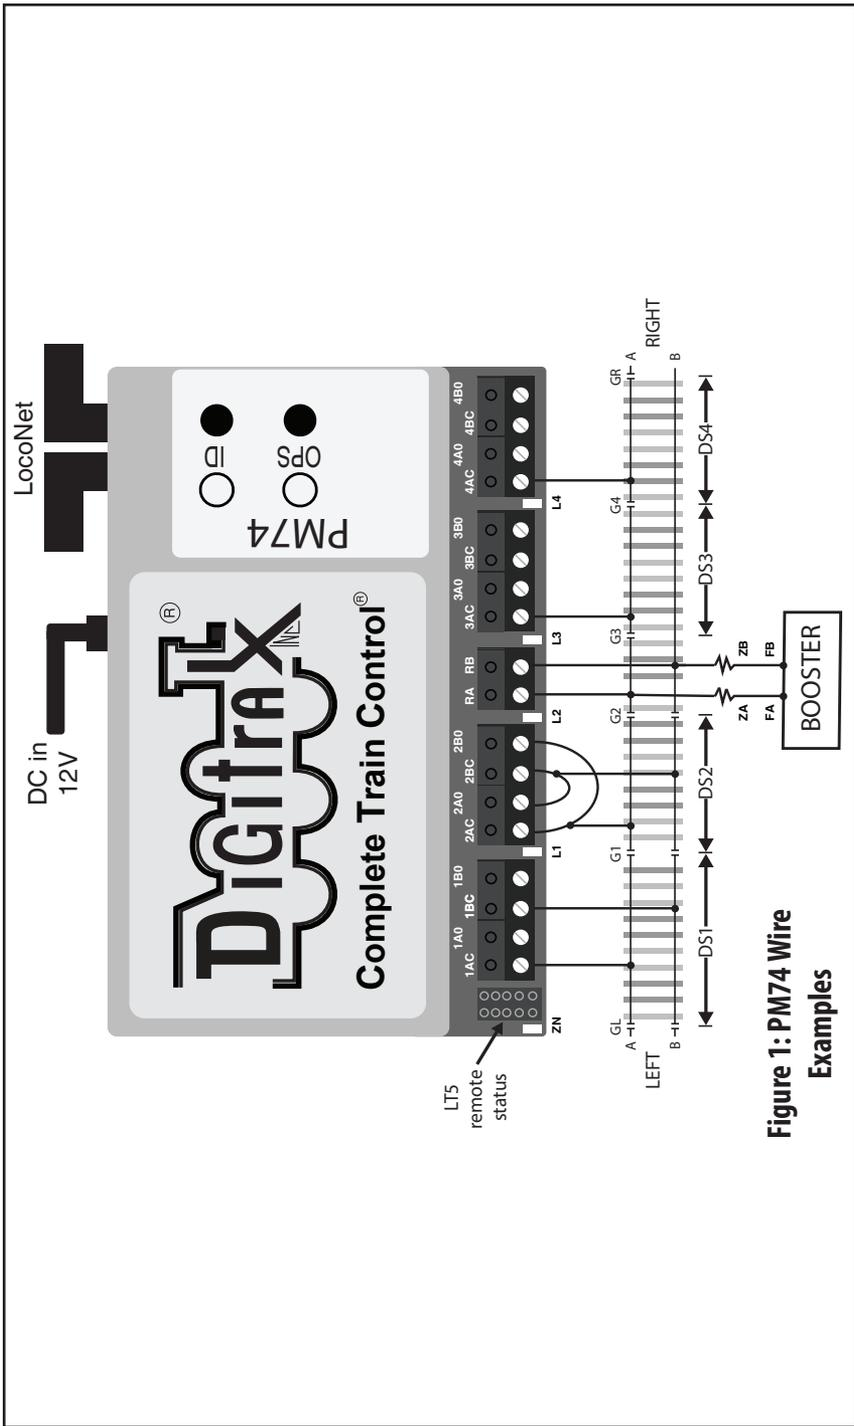

Figure 1: PM74 Wire Examples
1. Figure 1 shows the recommended connections to operate the PM74 on a LocoNet layout, with several track connection types shown.
To wire a PM74 DS for Short Circuit Power management, follow the Figure 1 wiring example of the DS1 track section. Note: the DCC power source provided by the Booster must be configured for overall short circuit protection of any track, wires and devices connected to its output by feeders FA and FB.
1. Figure 1 shows the recommended connection example to operate DS1 of the example PM74 for intelligent short-circuit Power Management. This is the factory default setting for all 4 DS connections, providing track short-circuit protection to both DS RA/RB rails.
To set up an Auto-reverse DS section like example DS2 rails of Figure 1:
3. The Figure 1 PM74 DS2 section wiring, **and** option switch are now configured for Auto-reverse action. In this example the rails between double gap portals G1 and G2 are configured as a Wye or reverse loop section. This has to have an entry portal G1 or G2 DCC polarity-matched for a train to cross that gap.
For a slightly simplified DS short-circuit wiring option, DS3 and DS4 examples in Figure 1 are shown each wired with only a single 3AC or 4AC connection.
1. Follow the Figure 1 wiring example for DS3 and DS4.